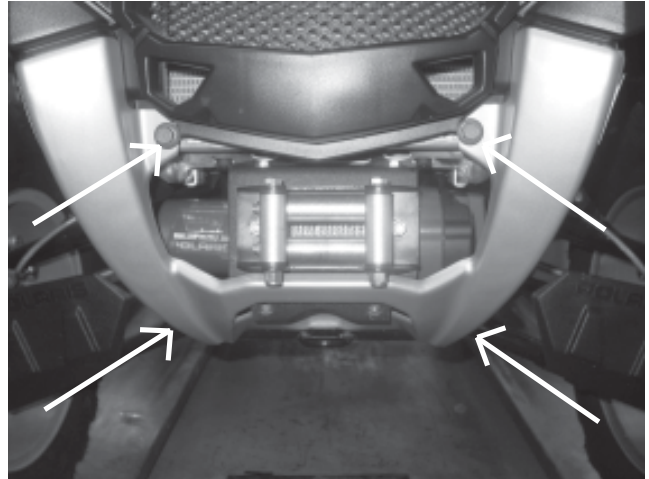

Figure 5
1. Remove the front skid plate (Figure 5). Use a 13mm socket to remove the four bolts securing the front skid pan to the front bumper.